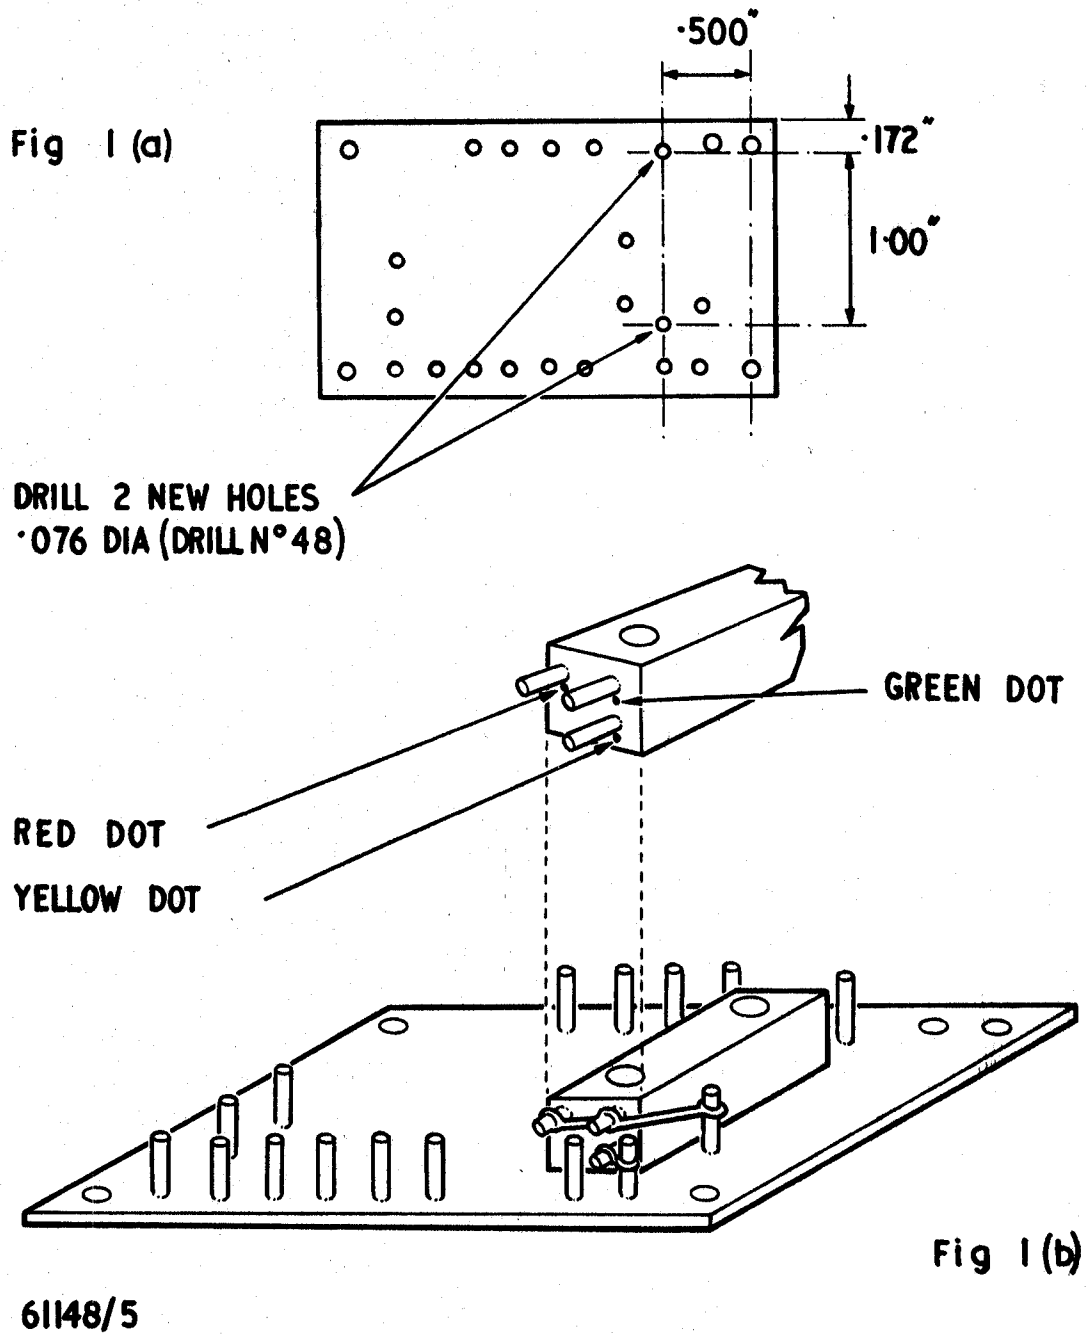

Fig 1 - Drilling and wiring detail
- d. If the modification has not previously been carried out (ie if RV1 is of the old type), two new fixing holes must be drilled as shown in Fig 1(a).
- e. Solder suitable lengths of 24 s.w.g. wire to the terminal lugs, connecting the red and green terminals together (Fig 1(b)).
- g. Re-solder leads as shown in Fig 1(b).
Note: This Issue 2, Pages 1-5, supersedes Issue 1, Pages 1-5, dated Jul 71. Paras marked **■** and Fig 1 have been amended.